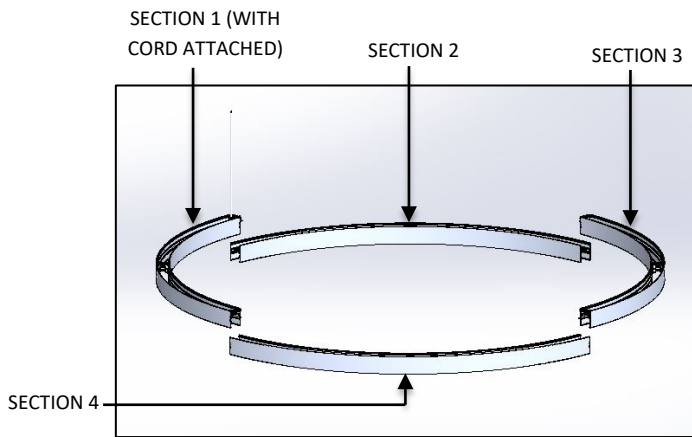

FIG. 2 - SOLO LUMINAIRE SECTIONS
1. SOLO LUMINAIRE SECTIONS (shown in FIG. 2)